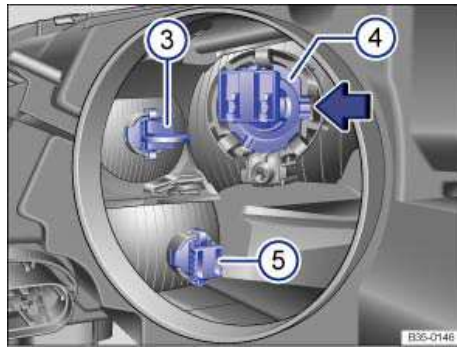

Fig. 201 Removing and installing the bulbs for the daytime running light and parking light 3, cornering light 4 or turn signal 5.
| 4. | Remove the bulb holder ⇒ fig. 201 (3) with the bulb and pull it toward the rear out of the headlight housing. |
| 4. | Press in the direction of the arrow to remove the bulb holder ⇒ fig. 201 (4) with the bulb and pull it toward the rear out of the headlight housing. |
| 7. | Insert the bulb holder with the new bulb in the original position in the headlight housing (4) and press opposite to the direction of the arrow. The front of the bulb holder must fit correctly in the cutout on the headlight housing ⇒ fig. 201 (arrow). |
4. Press downward to remove the bulb holder ⇒ fig. 201 \(5\) with the bulb and pull it toward the rear out of the headlight housing.